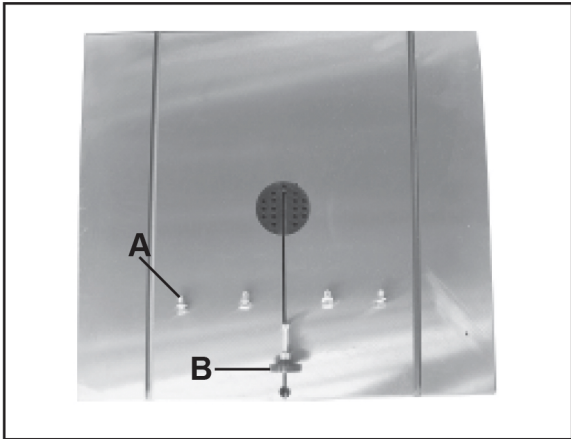

Figure 2
Mount the working table to the trunnion using the supplied (4) hex bolts, (4) lock washers and (4) washers (A--Fig.2).
Installing Table Leveling Screw: Insert hex socket screw and washer through top of table. Place bushing and wing nut from under the table and tighten. (B-Fig. 2)